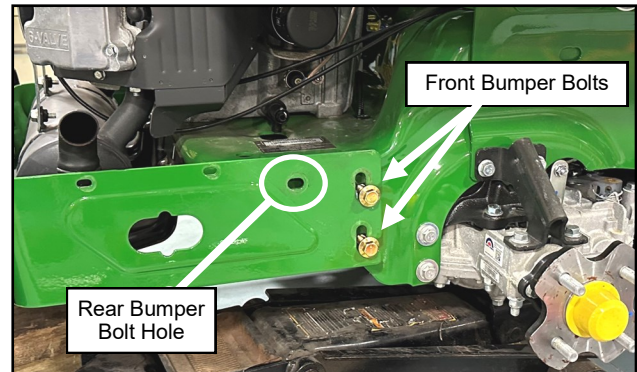

Fig. 1.20 (Right Side Bumper Fasteners)
- 1.20** On the right side of the vehicle, remove the rear bolt that secures the rear bumper to vehicle. One at a time remove the front bolts and partially thread in the longer supplied bolts. See Figure 1.20. (Right wheel removed for clarity)